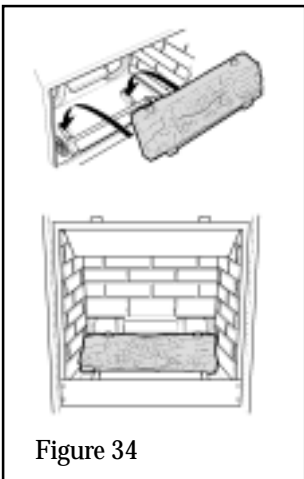

Figure 34
1. Place the base log on the supports in the firebox and against the firebox back. See figure 34.